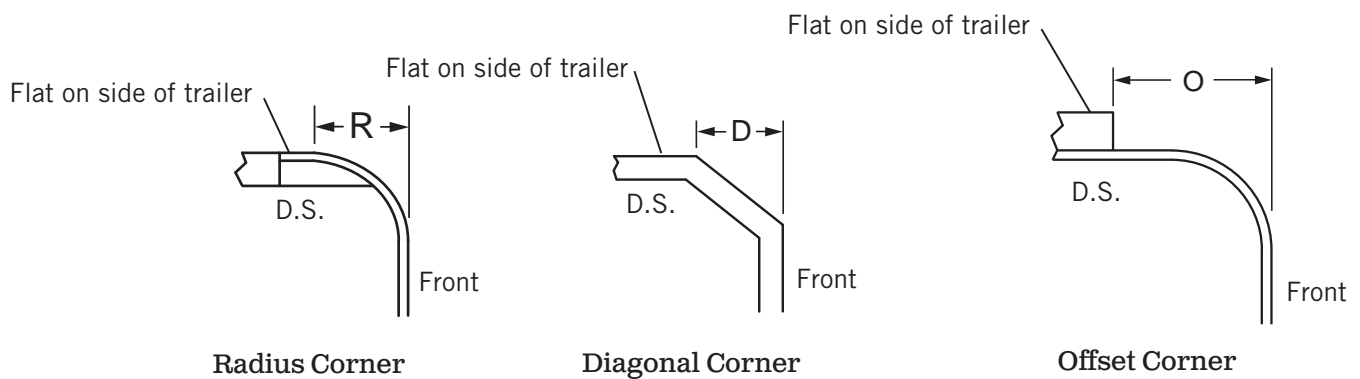

Figure 1
1) Figure 1 & 2. Mark the top rail where flat on side of trailer starts. Also mark 10" from there for heavy duty bows. The dimension of the **R**adius, **D**iagonal, or **O**ffset.